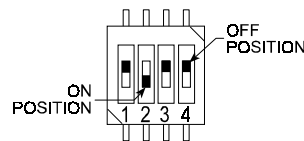

Figure 4. System Code Selector
Use a ball point pen or a similar pointed object to shift the switch levers to the positions producing the desired system code (Fig. 4).
**Important:** The factory test code shown in Figure 4 (2, 4, 5, 6, 7 ON / 1, 3, 8 OFF) must not be used. Also avoid codes such as: all keys ON, all keys OFF or alternating ON/OFF settings.